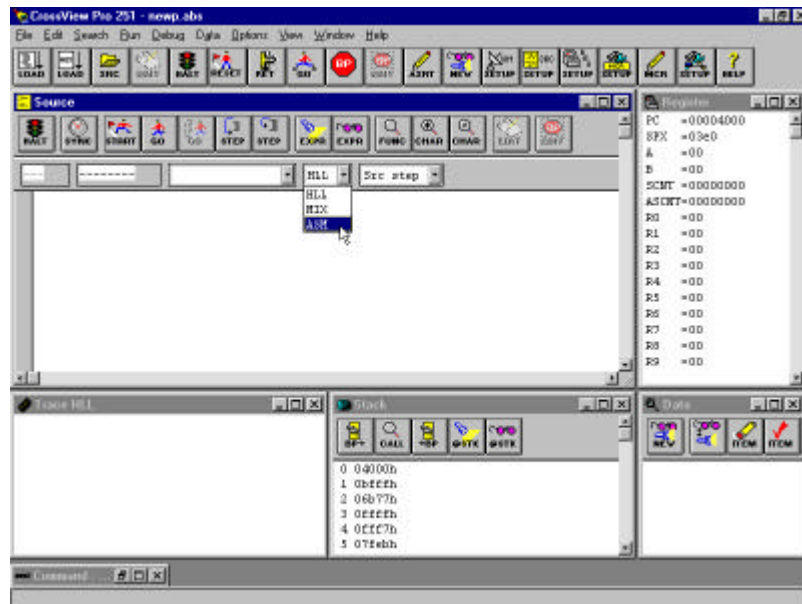

Figure 17 CrossView Pro Desktop
3. After a few seconds, due to the reset sequence of the board, loading of symbols and downloading the code to the board, the desktop window shown in Figure 17 appears:
4. Change the view of the source window to Assembly level by clicking on ASM in the View popup list (see Figure 17). This opens the assembly source window with the Program Counter at 00:4000H.